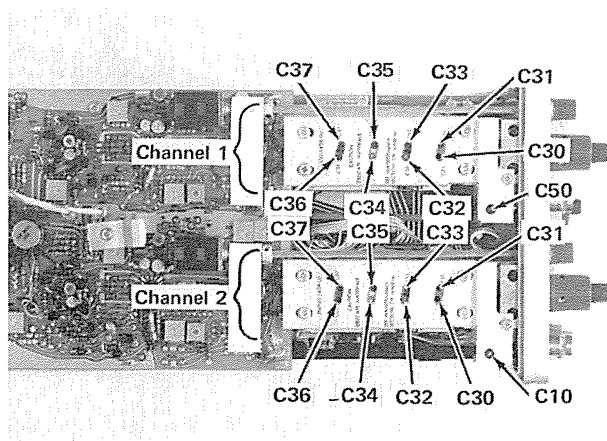

Fig. 5-19. Location of VOLTS/DIV Compensation adjustments.
- e. ADJUST—C10 (see Fig. 5-19) with a low-capacitance screwdriver for best flat-top waveform.
- j. ADJUST—Channel 2's C36 and C37 (see Fig. 5-19) with a low-capacitance screwdriver, for best corner and flat-top waveform.
- o. ADJUST—Channel 2's C34 and C35 (see Fig. 5-19), with a low-capacitance screwdriver, for best corner and flat-top waveform.
- s. ADJUST—Channel 2's C32 and C33 (see Fig. 5-19) with a low-capacitance screwdriver, for best corner and flat-top waveform.
- aa. ADJUST—Channel 2's C30 and C31 (see Fig. 5-19) with a low-capacitance screwdriver, for best corner and flat-top waveform.
- d. ADJUST—C50 (see Fig. 5-19) with a low-capacitance screwdriver for best flat-top waveform.
- i. ADJUST—Channel 1's C36 and C37 (see Fig. 5-19) with a low-capacitance screwdriver, for best corner and flat-top waveform.
- n. ADJUST—Channel 1's C34 and C35 (see Fig. 5-19) with a low-capacitance screwdriver, for best corner and flat-top waveform.
- r. ADJUST—Channel 1's C32 and C33 (see Fig. 5-19) with a low-capacitance screwdriver, for best corner and flat-top waveform.
- z. ADJUST—Channel 1's C30 and C31 (see Fig. 5-19) with a low-capacitance screwdriver, for best corner and flat-top waveform.